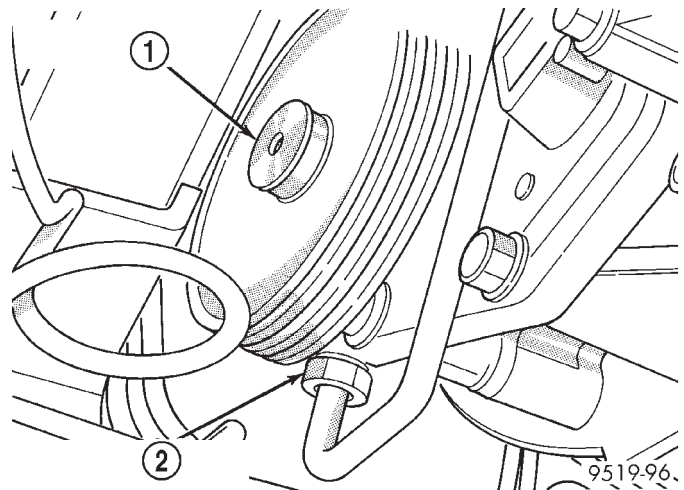

Fig. 11 Power Steering Pump Pressure Fitting
(5) Remove the power steering pressure hose from the pressure fitting on power steering pump (Fig. 11).
(6) Remove the power steering fluid pressure hose from the vehicle through the bottom rear of the engine compartment.
(7) Discard all used O-rings located at ends of power steering pressure hose fittings.